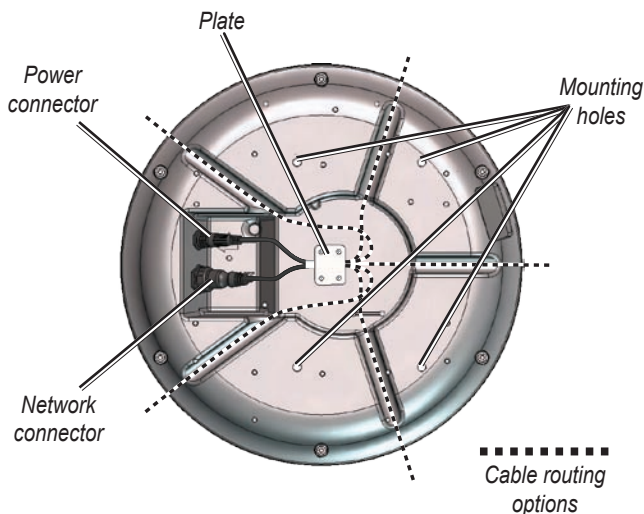
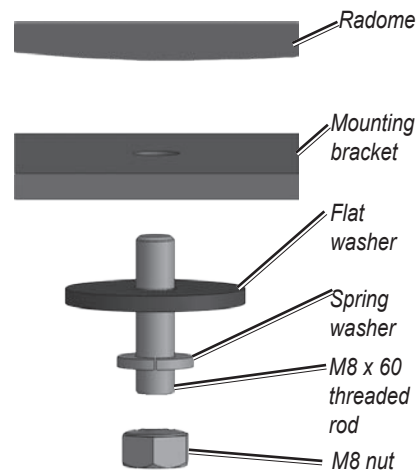

Figure 2
Figure 3
2. Align the notch and locking ring on the power cable to the power connector. Press the 2-pin power cable to the power connector and the RJ-45 marine network cable to the RJ-45 socket (Figure 2). Turn the power cable locking ring clockwise until it stops. Tighten the RJ-45 locking ring clockwise until it is firmly sealed.
3. The power and network cables may be pressed into any of the five guide grooves molded into the bottom of the radome case and secured under the cable hold-down plate (Figure 2). Avoid excessive bending or twisting of the cables. See the following "Cable Runs" section for more information.
5. Install the four (4) M8 x 1.25 x 60 threaded rods into the mounting holes on the bottom of the radome. There should be no more than 50 mm \pm 1mm (2") extruding from the radome when they are installed properly.
6. Fasten the radome to the mounting surface using the M8 x 1.25 x 60 threaded rods (installed in the previous step), spring washers, flat washers, and M8 Hex nuts as shown in Figure 3. **The nuts should be torqued to between 13.7-18.6 N m (10-14 lb ft).**